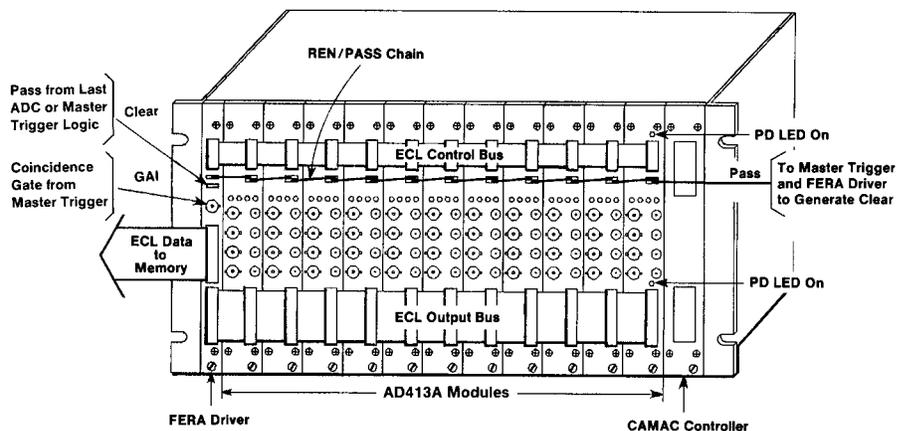

Fig. 1. Interconnection of Multiple AD413As and LeCroy 4301 FERA Driver for FERAbus Readout.
Normally, all the ADCs in the crate are connected to a LeCroy Model 4301 FERA Driver for control and readout (Fig. 1). The FERA Driver, in turn, delivers the data to either a LeCroy Model 4302 Dual Port Fast Memory in CAMAC, or a CES Model HSM8170 High Speed Memory in VMEbus. Both memories operate in the list mode to assemble the block of coincident events for further processing by an event builder.
**ECL DATA OUTPUT** Front-panel 17- by 2-pin connector (AMP 1-103326-7) provides the digitized ADC outputs for connection to the FERA data readout bus. Differential ECL outputs are employed, with bit 1 assigned to the two pins in row 1, and bit 16 occupying the two pins in row 16. Row 17 is not connected. See READOUT FORMAT. Interconnection between ADC modules and the FERA Driver (LeCroy 4301) requires construction of a 34-conductor ribbon cable (3M part number 3365/34) with 17- by 2-pin headers (3M 3414-6006 or AMP 499498-9) spaced to match the configuration of modules (Fig. 1). Only one module on the ECL DATA OUTPUT bus should have the pull-down resistors installed (See PD LED and Fig. 1).
**ECL CONTROL BUS** Front-panel 8- by 2-pin connector accommodates the control bus for synchronizing data acquisition among multiple ADCs, and for ECL readout. A row of two pins is assigned to each differential ECL input or output. Interconnection between ADC modules and the FERA Driver (LeCroy 4301) requires construction of a 16-conductor ribbon cable (3M part number 3365/16) with 8- by 2-pin headers (3M 3452-6006 or AMP 499497-3) spaced to match the configuration of modules (Fig. 1). Only one module on the ECL CONTROL bus should have the pull-down and termination resistors installed (See PD LED and Fig. 1). The logic signals in the ECL CONTROL bus are listed below. Except where noted otherwise, the inputs to the AD413A are provided from the LeCroy 4301 FERA Driver connected to the bus.
**PASS** The PASS output is provided on a front-panel, 1- by 2-pin connector. It indicates completion of the module's readout cycle on the ECL bus. The PASS output is normally connected to the REN input on the next module to enable readout of the next module (Fig. 1). In the zero-suppression mode, the Model AD413A generates the PASS signal typically within 3 ns of receiving the REN signal if the Model AD413A has no data to read out. The PASS signal from the last Model AD413A in the readout loop is used to generate the CLR signal via the external master trigger logic for the experiment and/or the LeCroy 4301.